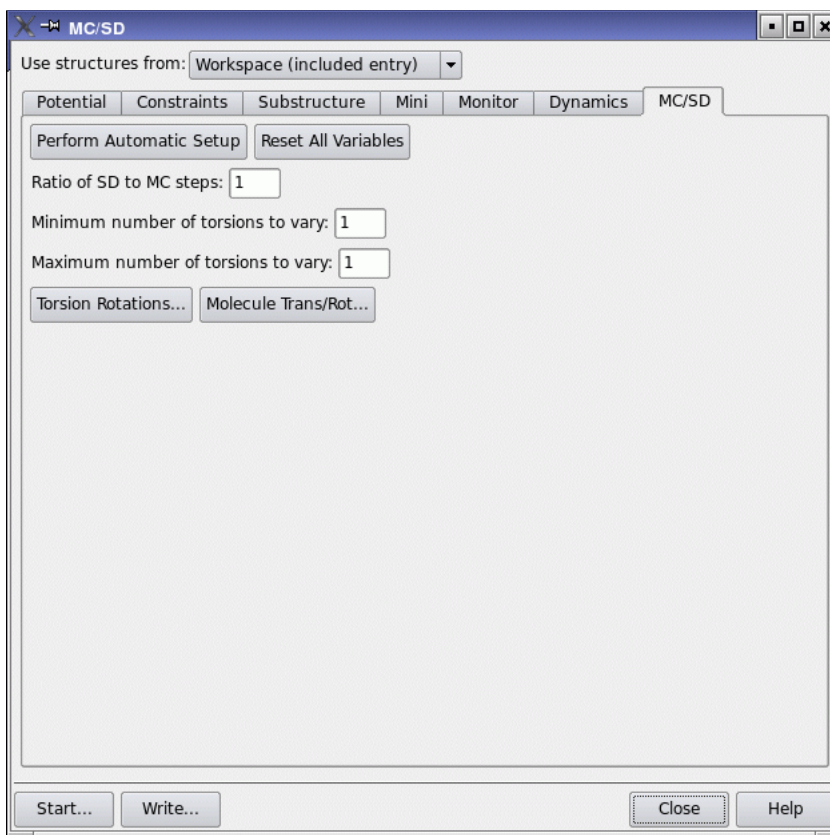

Figure 5.2. The MC/SD panel showing the MC/SD tab.
11. In the MCSD tab, click Perform Automatic Setup (see Figure 5.2).